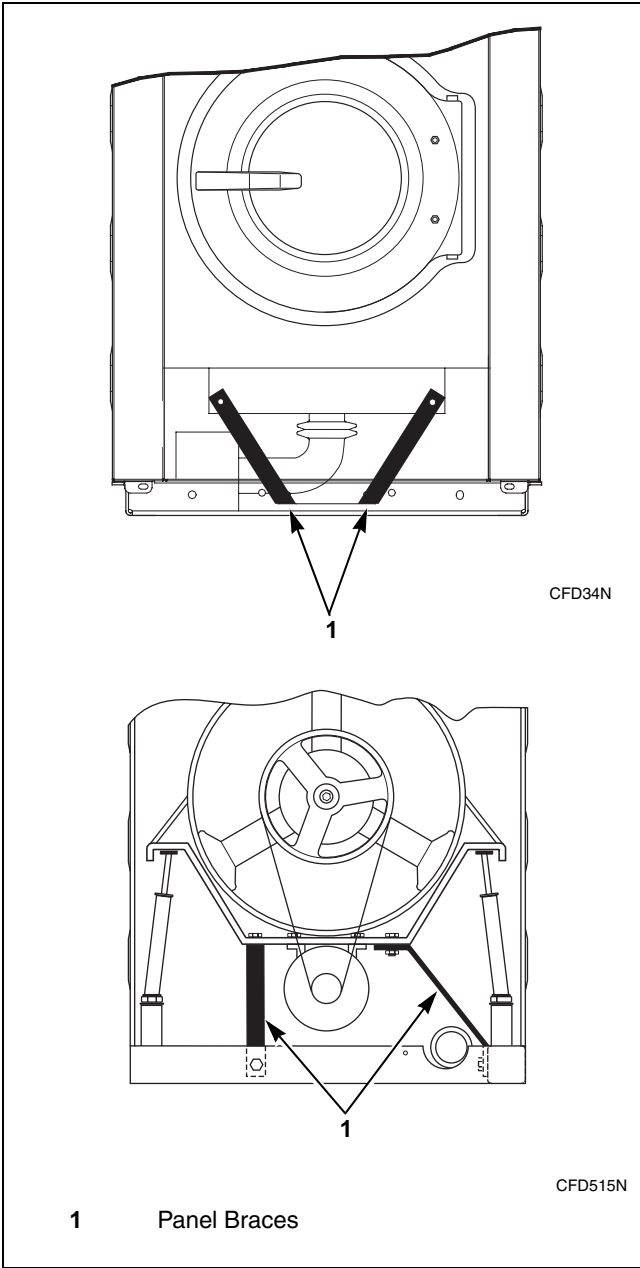

Figure 5
4. Remove the panel braces. Refer to *Figure 5*.
IMPORTANT: Do NOT remove panel braces. They may be located in either the front or on the side and rear of the machine. Refer to *Figure 5*.